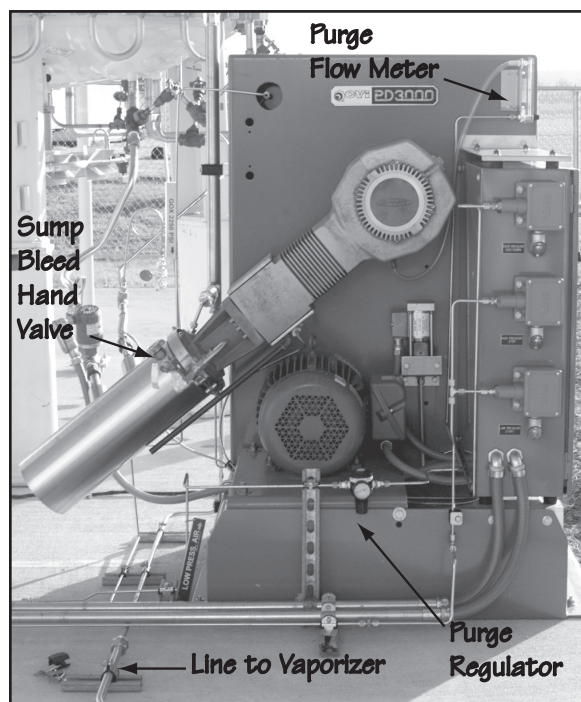

Figure 9-4.
9.1.2. LOX Pump (Figures 9-4 and 9-5). The high-pressure cryogenic pump is designed to maintain a continuous supply of GOX to the facility from 1,500 to 2,250 psi. Once the pump has reached its desired cool-down temperature, it operates automatically. When the pump is operating, the red warning beacon (located on the Remote Operations Panel beside the GOX storage tubes) will flash.